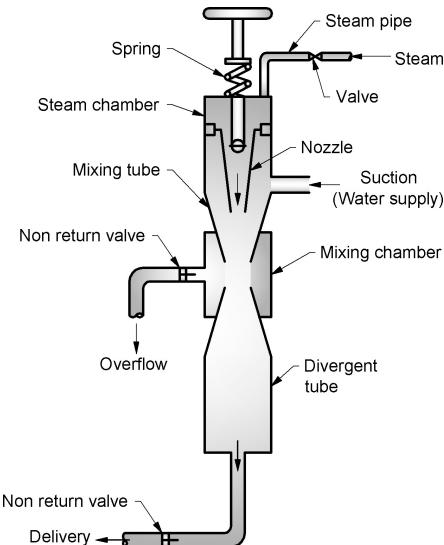

Fig. 2.18 Steam injector
- (1) Fig. 2.18 shows schematic diagram of steam injector. It does not have any moving parts hence its operation is silent.
- (2) It consists of spindle with hand wheel, steam chamber, mixing chamber, divergent tube as shown in Fig. 2.18.
- (3) The spindle upper end is provided with handle and lower end is provided with valve.
- (4) With the rotation of handle, steam nozzle moves up and down, so steam flow through the nozzle can be controlled.